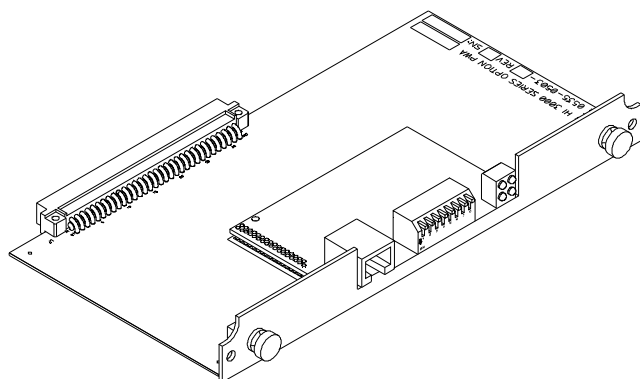

FIG. 63: ETHERNET I/P/OPTION CARD
- Step 1. Position the EtherNet/IP Option Card with the back plane connector facing Option Slot #0 or Option Slot #1. (See Fig. 63)